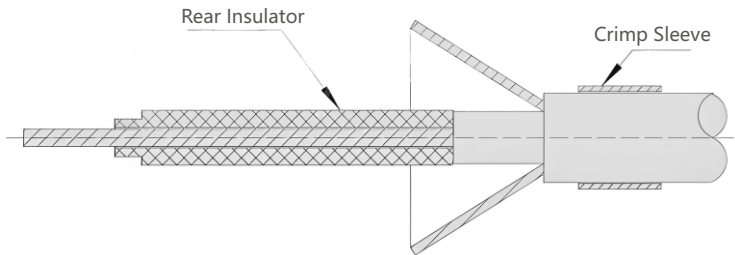

Figure 1.10
- ③As shown in Figure 1.10, slide the rear insulator onto the central conductor of the cable, and make its tail tightly press against the cable insulation medium.